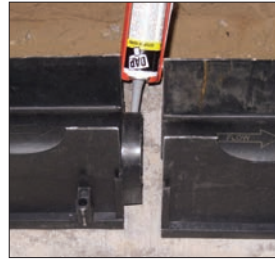

Figure 1
8. Use the Quick Clips over the mounting brackets and apply appropriate sealant on tongue and recessed areas. (Figure 1 & 2).